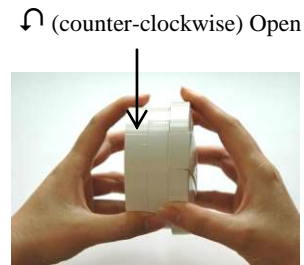
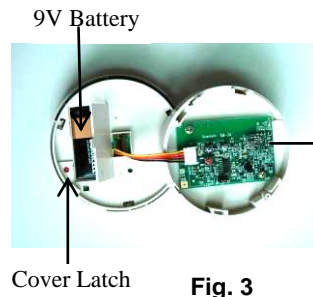

Fig. 2
Fig. 3
2. Refer to Fig. 2 & Fig. 3, detach the bottom box of the smoke detector.
3. Refer to Fig. 3, open the cover of the battery compartment, connect supplied 9V battery and then close the cover.